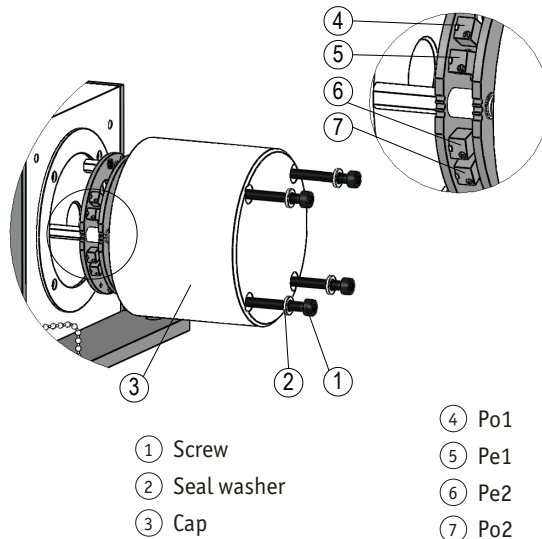

Fig. 8: Setting up the trim potentiometers
Casing of wire-actuated part is equipped with four plugs (1) for aeration (see Fig. 8), if necessary. Water/humidity inside the casing can be easily evacuated by removing the plugs (1).
Adjusting the trim potentiometer (Fig. 8)